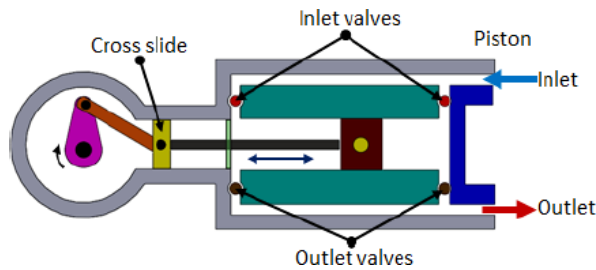

Fig.4.2 Double Acting Compressor
- ▶ The pulsation of air can be reduced by using double acting compressor as shown in Fig. 4.2. It has two sets of valves and a crosshead.
- ▶ A connecting rod transforms the rotary motion of the crankshaft into the reciprocating motion of piston in the cylinder. The schematic diagram of a single cylinder compressor is Fig.4.2